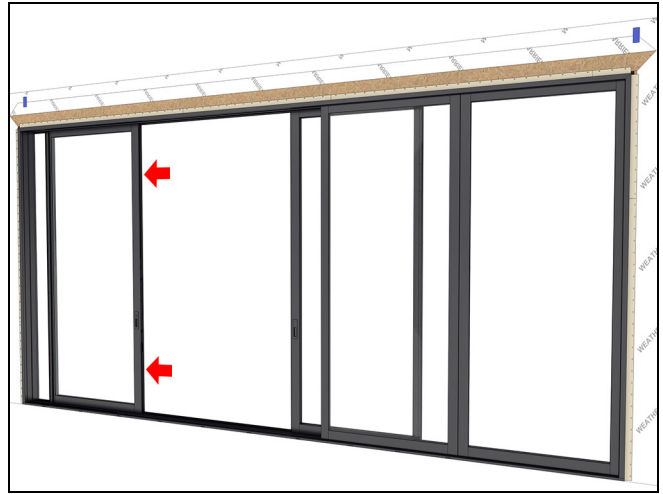

Figure 140
11. Slide the (E) operator panel about 12" from the jamb. See Figure 140.